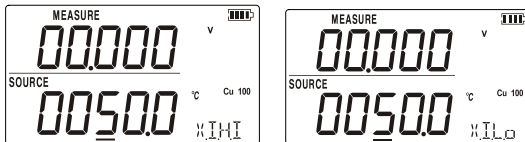

Figure 6.2-2
4. In case that the calibrator displays $\times I.H.I$ or $\times I.L$, the exciting current of calibrator has exceeded the limit. The screen will display as shown in Figure 6.2-2.